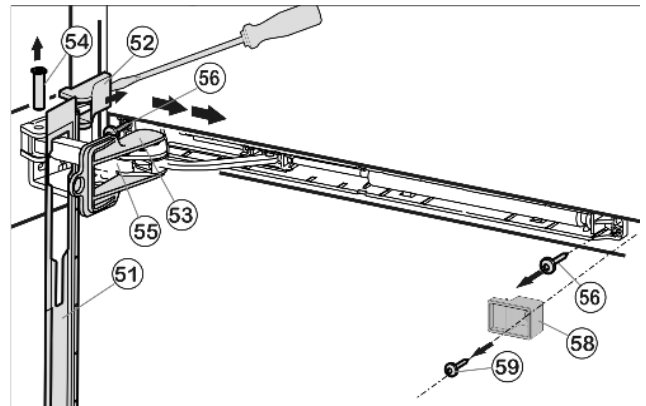

Fig. 30
- ▶ Push panel forward over the damper bracket *Fig. 30 (55)* in the direction of the appliance.
- ▶ Engage locking device *Fig. 30 (53)* into place inside oblong hole.
- ▶ Lift off cover *Fig. 30 (52)* from the outside using a screwdriver and remove by pulling outwards.
- ▶ Push bolt *Fig. 30 (54)* out from below.
- ▶ Press damper bracket *Fig. 30 (55)* in the direction of the door.
- ▶ Remove panel *Fig. 30 (51)*.
- ▶ Unscrew spacer *Fig. 30 (58)*.
- ▶ Unscrew entire soft stop unit (2 x Torx 15) *Fig. 30 (56)*.